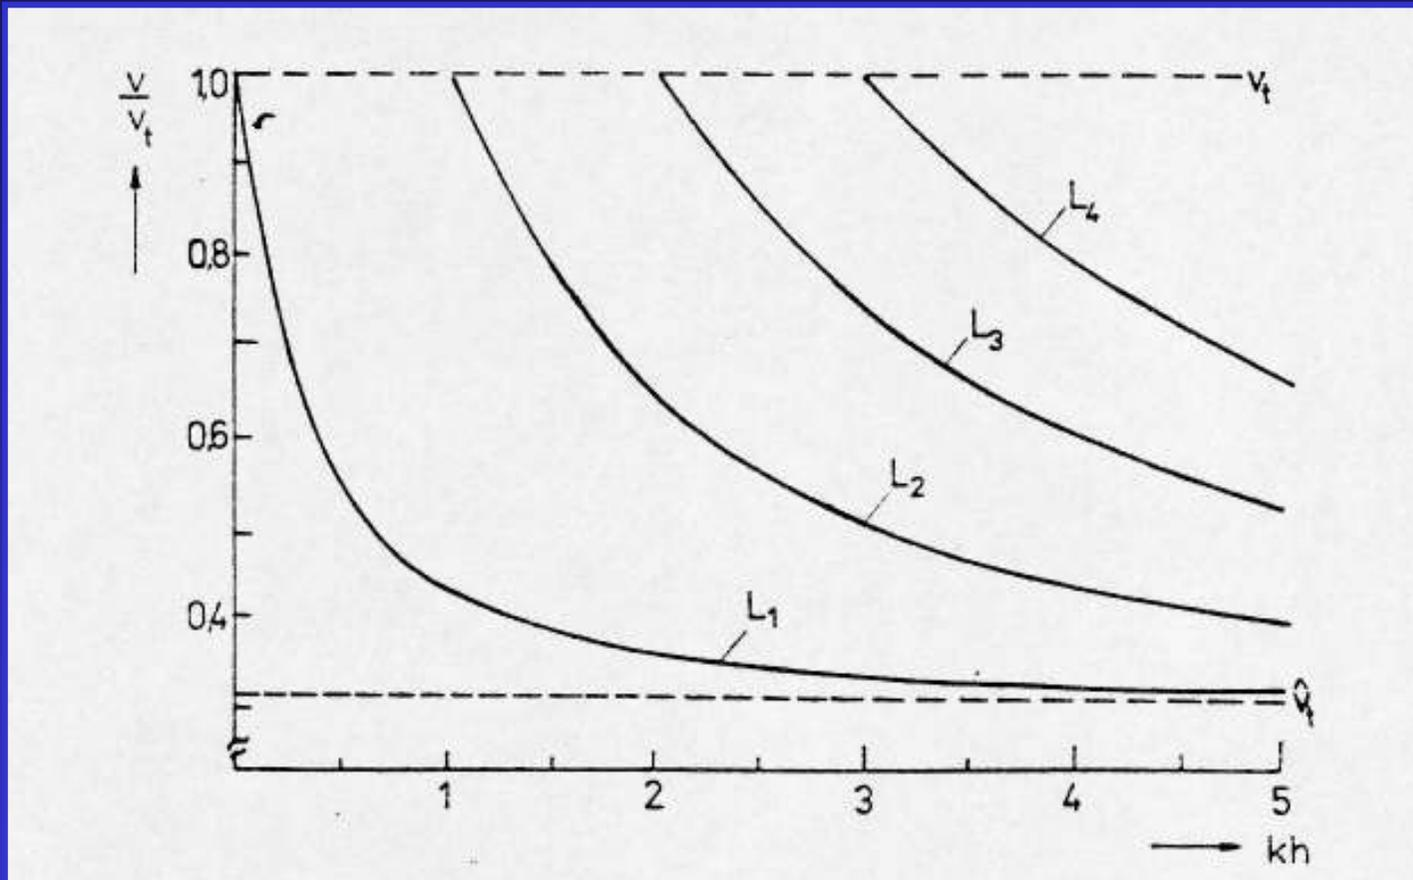

Fig.3. Dispersion curves
- Fig.3. Measured dispersion curve. Cu layer on steel substrate.